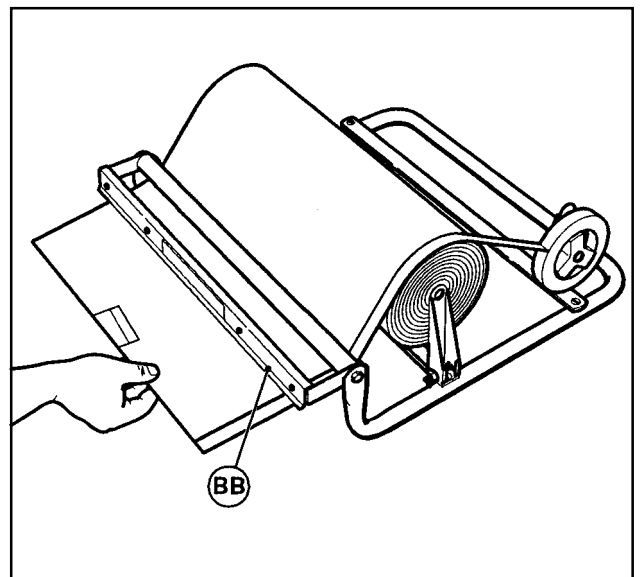

Figure 4
**To dispense paper apron** – Grip the lead end of the paper apron near the taped edge (do not touch adhesive) and, for best results, pull the desired length paper apron straight out smoothly as shown in figure 4.
**To cut paper apron** – Move the full width of the paper apron against the serrated blade (BB). For best results, start the cut at the tape end of the apron. Maintain tension on the paper apron and continue to pull across the blade in the direction of the cut.